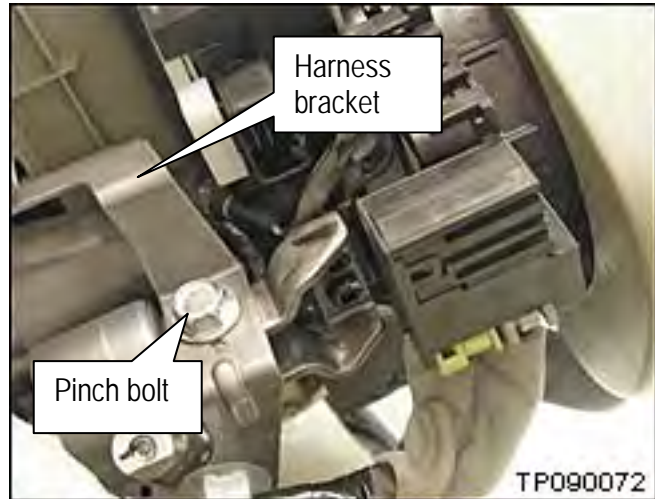

Figure 40
33. Install telescope motor pinch bolt and harness bracket (see Figures 40 and 41).